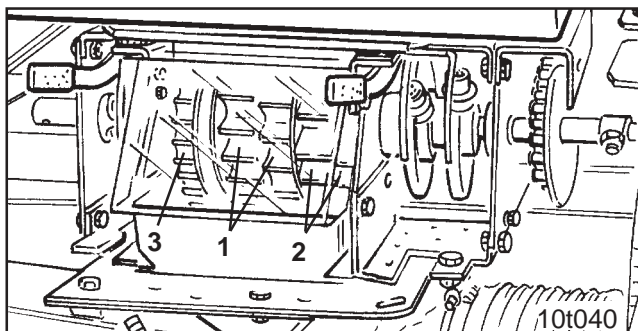

Fig. 9.1
- a white coloured main seed wheel (Fig. 9.1/1)
- an orange coloured main seed wheel (Fig. 9.1/2)